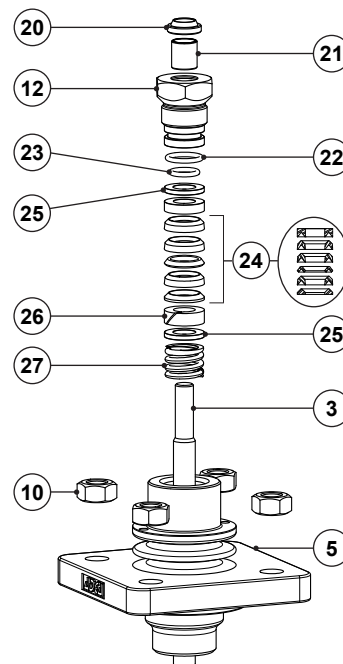

Fig. 9 - PTFE V-Rings
1. Unscrew the lock nut (13) from the stem (7).
2. Unscrew the gland nut (12) and remove it carefully together with the O-rings (22, 23).
3. Carefully pull the plug (3) with plug stem (7) out of the bonnet (5) through its bottom. Inspect the stem surface and plug sealing surface, replacing if necessary.
5. Clean the packing box and slide the stem (7) into the bonnet (5) once again.
6. Apply a suitable lubricant to all stem sealing components and stem (7).
7. Carefully slide the stem sealing components into the packing box according to Fig. 9.
8. Renew the scraper ring (20), plain bearing (21) and O-rings (22, 23) if necessary. Fit the O-rings (22, 23) and the gland nut (21), screwing it loosely.